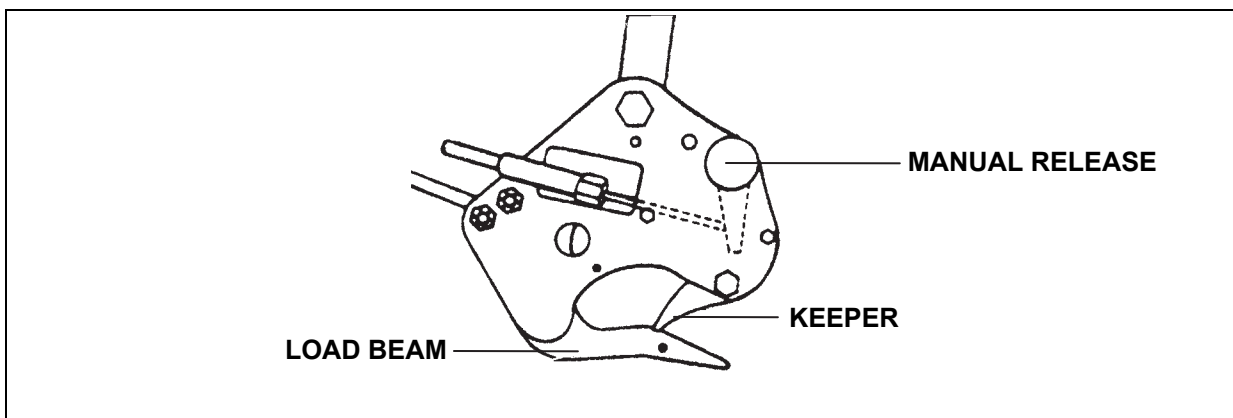

Figure 2-24. H-65A Cargo Hook System
- The cargo hook (figure 2-24), rated at 2,000-pound capacity, is mounted on the underside of the helicopter directly below the main rotor. The aircrew can open the cargo hook electrically or manually. A manual release knob is located on the right-hand side of the hook. In an emergency, the ground crew can rotate the manual release knob clockwise to open the cargo hook.